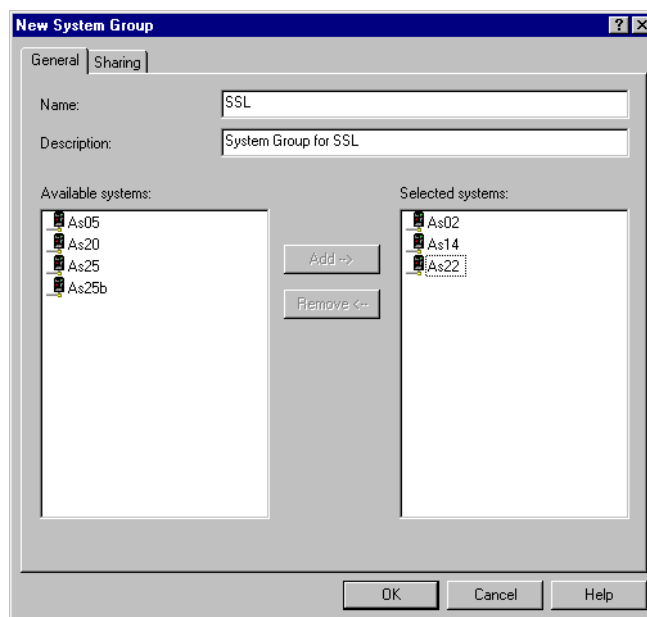

Figure 171. Select system for system group
3. Define a new system group that includes all AS/400 endpoint systems to which you want to connect using SSL as shown in Figure 171 on page 203.